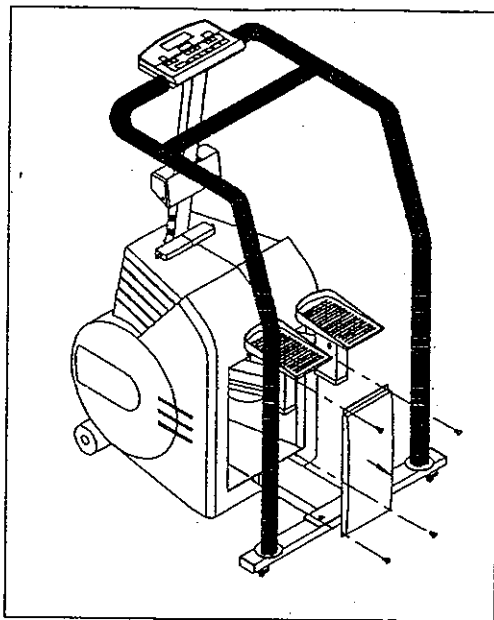

Fig. 4
3. Remove the four screws securing the front cover (see Fig. 4).